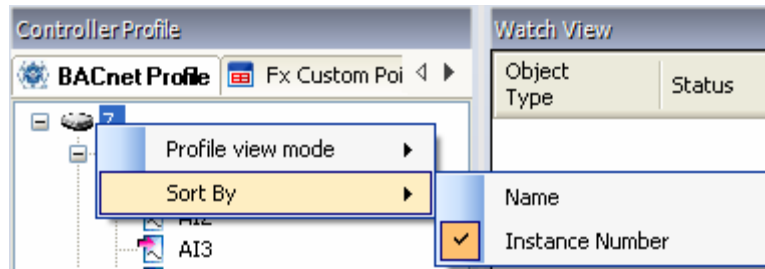

Figure 41: Changing the Grouping
3. To change the grouping, right-click any area in the Profile View and select Sort By (Figure 41).